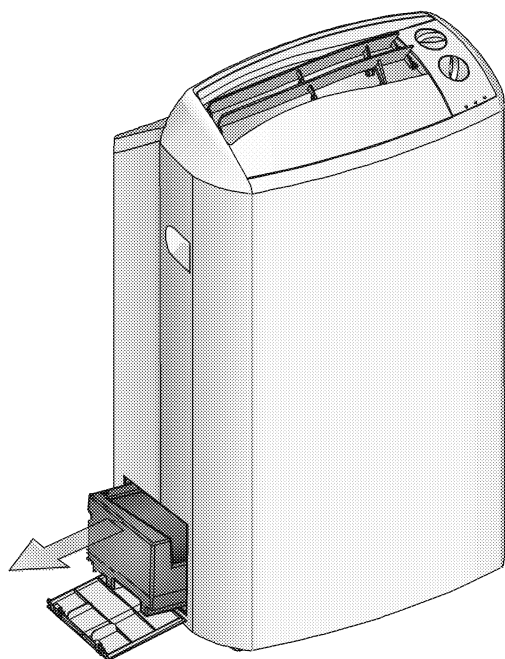

Figure 19
Wait at least 5 minutes, and then remove the water tank and empty it (see figure 19)
1. Open the water tank door (see fig 19).